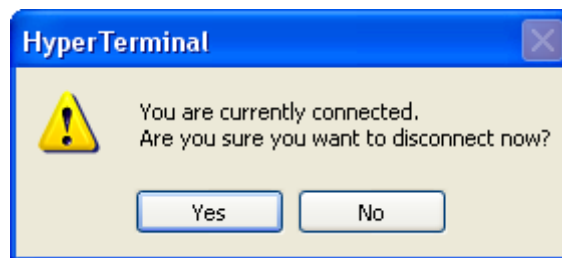
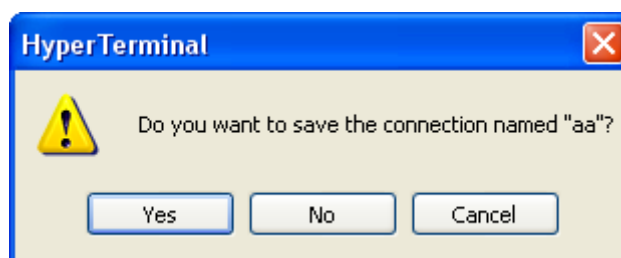

Fig. 3.5 Disconnect
Fig. 3.6 Save Hyper Terminal session
Step 5: To close the window, the Fig. 3.5 will appear. Select “Yes” and Fig. 3.6 will appear: